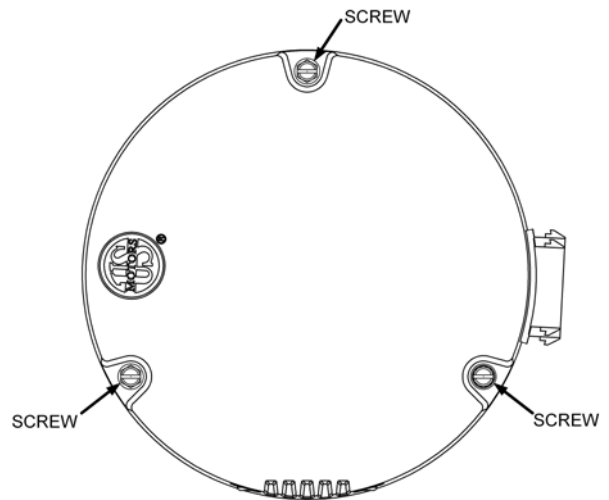

Figure 7b
2. Remove three screws securing the motor and control unit together. Grasp the Control Unit and pull away from motor until both units are separated. [Figure 7b].